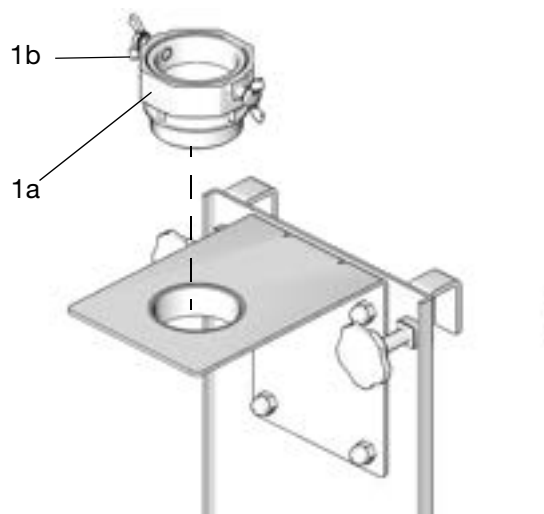
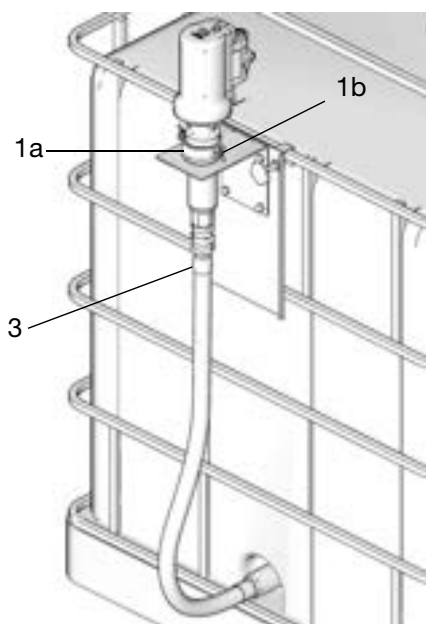

FIG. 13
FIG. 14
3. Thread the pump bung adapter (1a) into the hole in the pump bracket assembly. Hand tighten securely. (FIG. 13).
4. Insert the pump (1) through the bung adapter (1a) (FIG. 14). Secure the pump in place by tightening the gasket screws (1b) (FIG. 13 and FIG. 14).